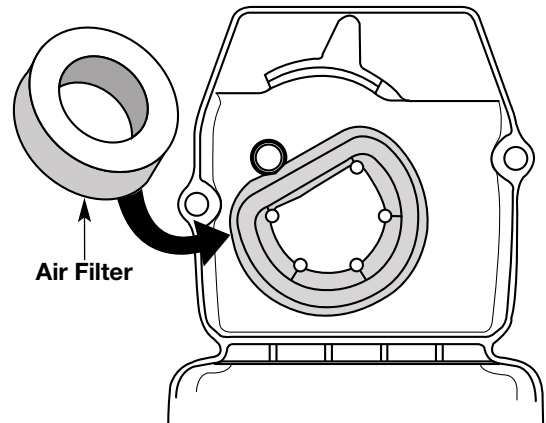

Fig. 29
2. Remove the air filter from behind the air filter/muffler cover. (Fig. 29).
6. Replace the air filter in the air filter/muffler cover (Fig. 29).